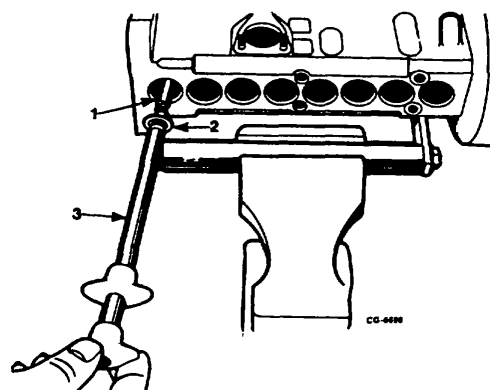

Figure 2. Installing Plungers
11. Using SE-2346 plunger installer tool, grasp plunger in tool and place spring keeper on tool. With marked tang of plunger toward side cover opening and open end of spring keeper away from side cover opening, install plungers and spring keepers in their respective barrels (Figure 2). Align plunger tang with control sleeve slot.